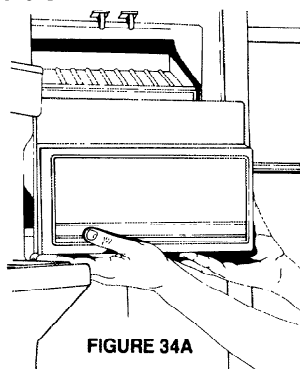

FIGURE 34A
**To remove ice bin assembly:** Lift up the ice bin assembly  $\frac{1}{4}$ ", then pull out. See Figure 34A.